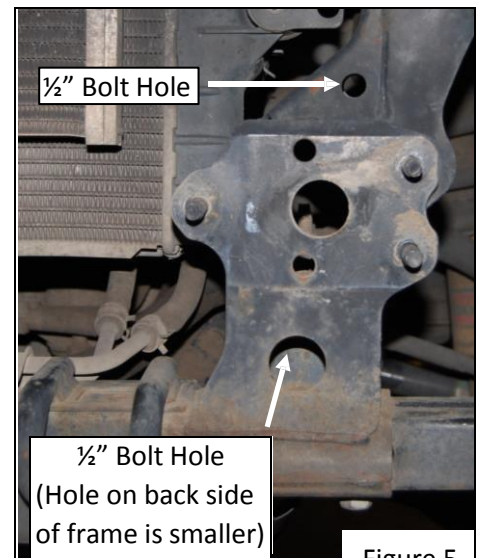

Figure 5
14. Before placing the bumper on the vehicle, check the frame holes to verify clearance for the  $\frac{1}{2}$ " x 5" winch plate reinforcement hex bolts. There are 2 locations per side, one above, and one below the mounting studs as indicated in **Figure 5**. Using one of your  $\frac{1}{2}$ " x 5" Hex Bolts, pass the bolt through the entire frame and out the back side at all 4 locations. If the bolt does not pass through, you will have to enlarge the holes slightly using a  $\frac{1}{2}$ " drill bit. If you have to enlarge any holes, we suggest you paint the exposed raw metal edge of the hole to prevent rust development.